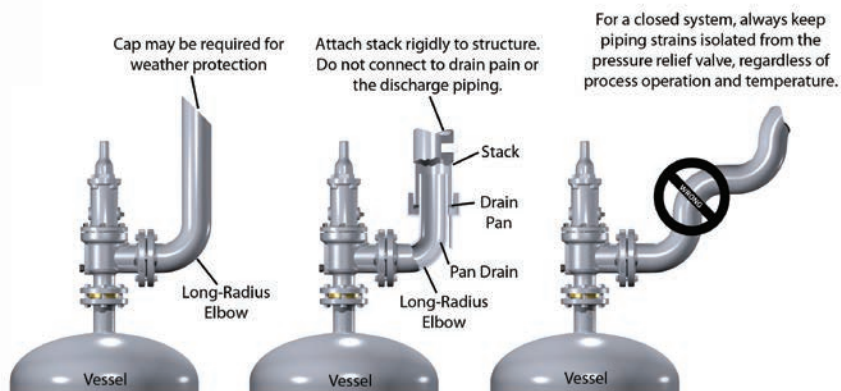

Figure 14: SRV Parts Alignment
- Use a screwdriver to compress the spindle retainer (16).
- Remove the spindle (15).
- Insert the lifting tool (see Figure 14) into the disc holder spindle pocket and tighten the eyebolt.
- Remove the disc holder (8) and disc (6) by lifting up on the lifting tool.
- Use the lifting lugs to lift the disc holder (8) and to remove all internals (see Figure 14).